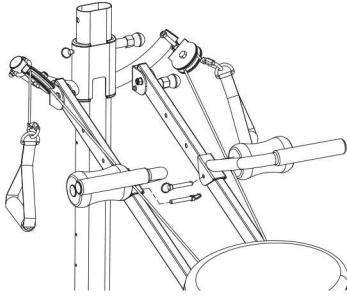

FIGURE 2
3. Insert the 2 Short Hitch Pins through the holes on the Multi Function Attachment Brackets and the hole on the Rails, as shown in Figure 2.